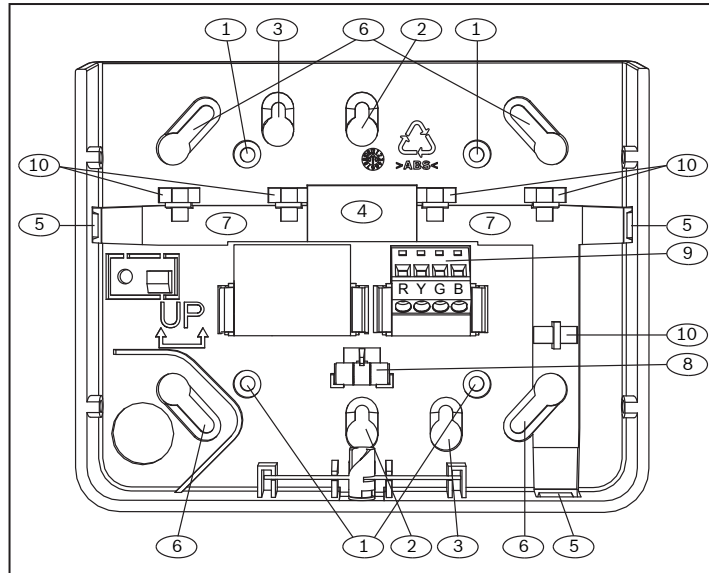

Figure 1.1: Keypad base overview
1. To mark the desired mounting surface, use the base as a template. Refer to *Figure 1.1* for mounting hole and wiring locations.
3. To mount the base to the desired mounting surface, use the appropriate mounting hardware (included). Refer to *Figure 1.1* for mounting hole and wiring locations.